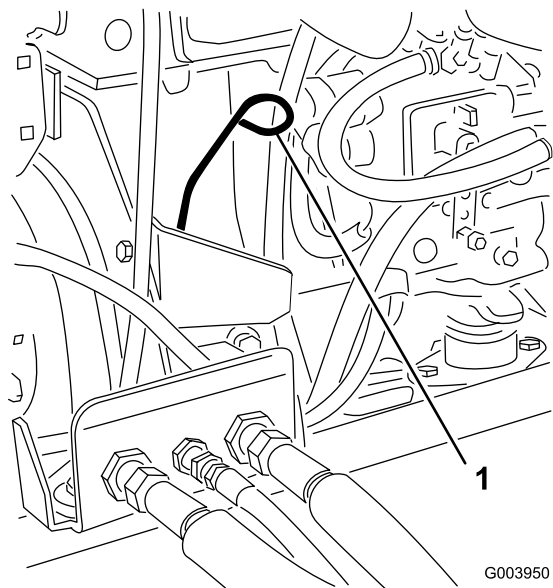

Figure 13
3. Remove the dipstick, wipe it clean, and install it (Figure 13).